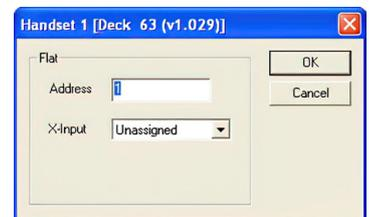

Fig 11
2. Double click the handset to change its number. Type in the desired number into the 'Address' field and click 'OK' [Fig. 11].